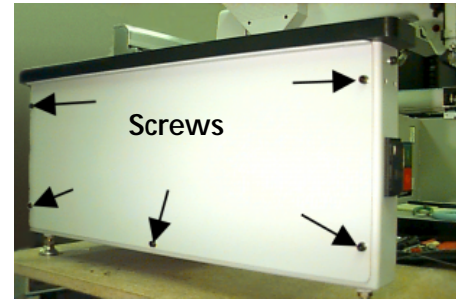

Figure 1-12
2. Remove the side covers; there are 5 screws holding each side cover in place (see Figure 1-12). Use the #2 Phillips head driver included in the operator kit to remove the screws.